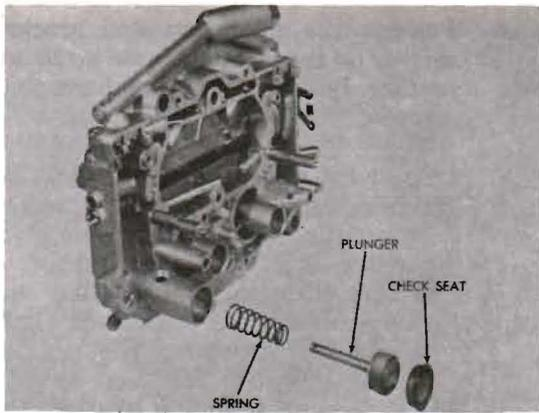
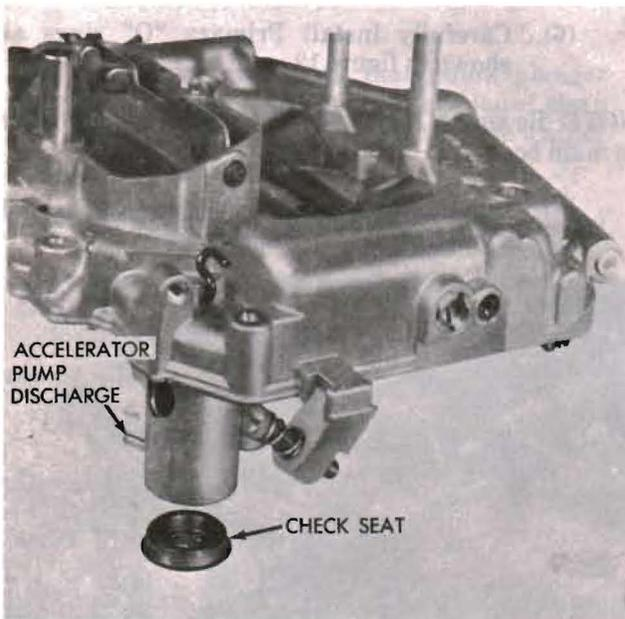

Figure 15. Accelerator Pump Assembly—Disassembled View
Figure 16. Installing Pump Check Seat
- (1) Install secondary metering jets over bleed tubes and tighten securely.
- (2) Position the accelerator upper (heavy) on pump plunger with large diameter up. (See figure 15.) Install spring and plunger in pump cylinder bore, compressing the spring until plunger rod extends through the bowl cover, then install the pump "S" link to retain the assembly in bowl cover. (See figure 16.)
- (3) Position intake check seat with flange down on a clean flat service. (fig. 16)
- (4) Position the accelerator pump bore over the assembly, then apply firm hand pressure to bowl cover to seat the intake check seat in the pump bore. (See figure 16.)
- (5) Install accelerator pump passage tube (plastic). Make sure the tube is not kinked.
- (6) Pour clean gasoline into the main body, approximately 1/2 inch deep, and carefully lower the bowl cover down onto the main body. Raise the pump plunger and press lightly on the plunger shaft to expel air from the pump passage.
- (7) Install accelerator pump discharge check needle in discharge passage. Using a small clean rod, hold discharge check needle